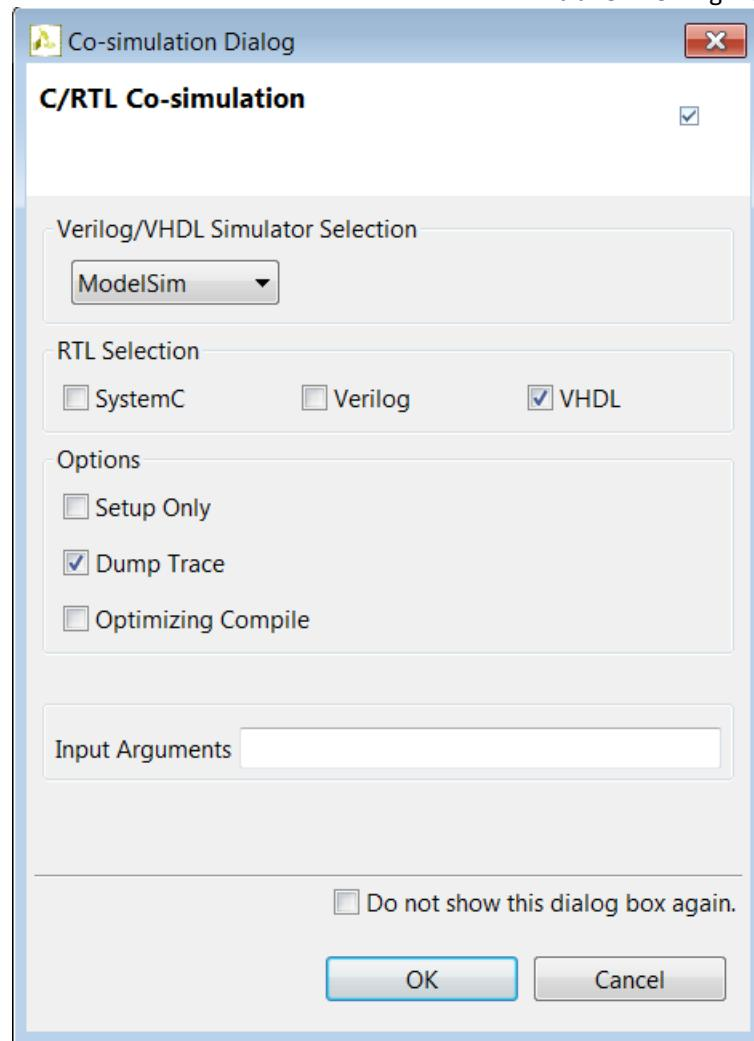

Figure 180 Cosimulation Dialog Box For Lab #3
- d. Select the Dump Trace option, to have the options shown in Figure 180.